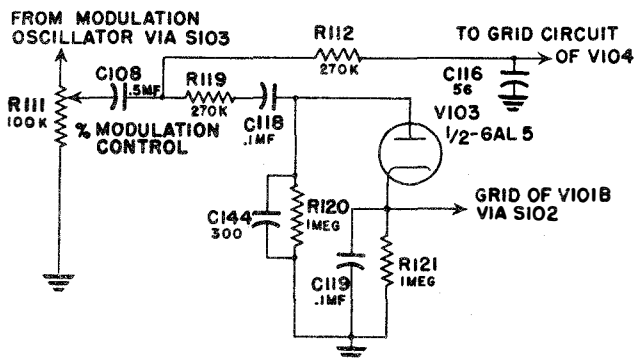

Figure 2-6. Simplified Schematic Diagram of the Modulation Diode
b. MODULATION DIODE. (See figure 2-6).
(1) The modulation diode (V-103) is a type 6AL5 dual diode with only one tube section used. It rectifies the modulating voltage. This rectified voltage is
then applied to the grid of the voltmeter bridge tube (V-101B) for determination of percentage modulation. The same voltmeter bridge is used for reading percentage modulation as is used for determining carrier output strength. The principal features of the modulation diode are shown in Figure 2-6.